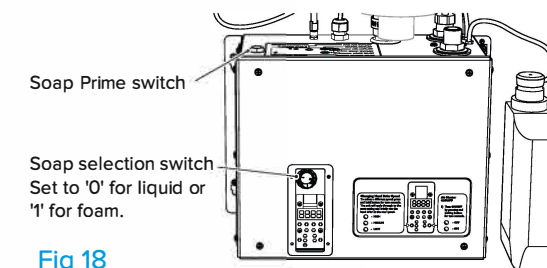

Fig 18
5. Press the soap prime switch until soap is dispensed from the tap head (See figure 18).